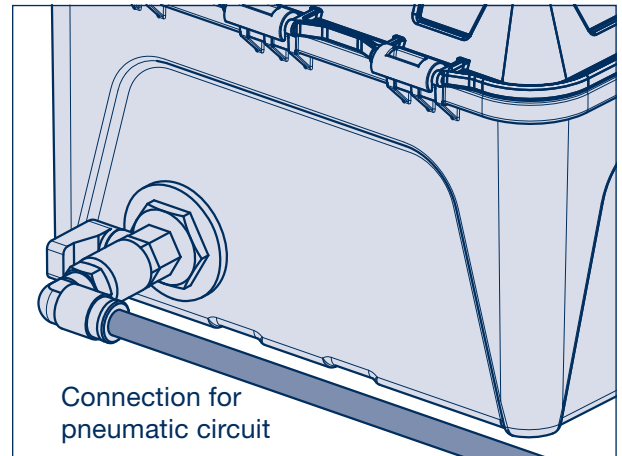

Figure 13
- [1] For axles with air suspension, connect supply lines (8 x 1 mm PA line) to the AirSave Control Box (Figure 13) directly at the air tank of the trailer air suspension.